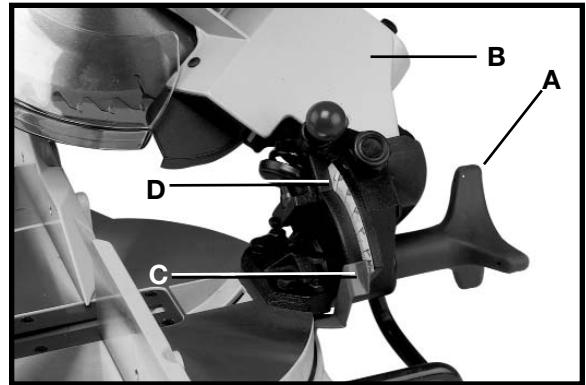

Fig. 16
The cuttinghead of your compound miter saw can be tilted to cut any bevel angle from a 90 degree straight cut off to a 45 degree left bevel angle. Loosen bevel lock handle (A) Fig. 16, tilt cutting arm (B) to the desired angle, and tighten lock handle (A).
Positive stops are provided to rapidly position the saw blade at 90 and 45 degrees to the table. Refer to section entitled "**ADJUSTING 90 AND 45 DEGREE BEVEL STOPS**". The bevel angle of the cutting arm is determined by the position of the pointer (C) Fig. 16 on the scale (D).